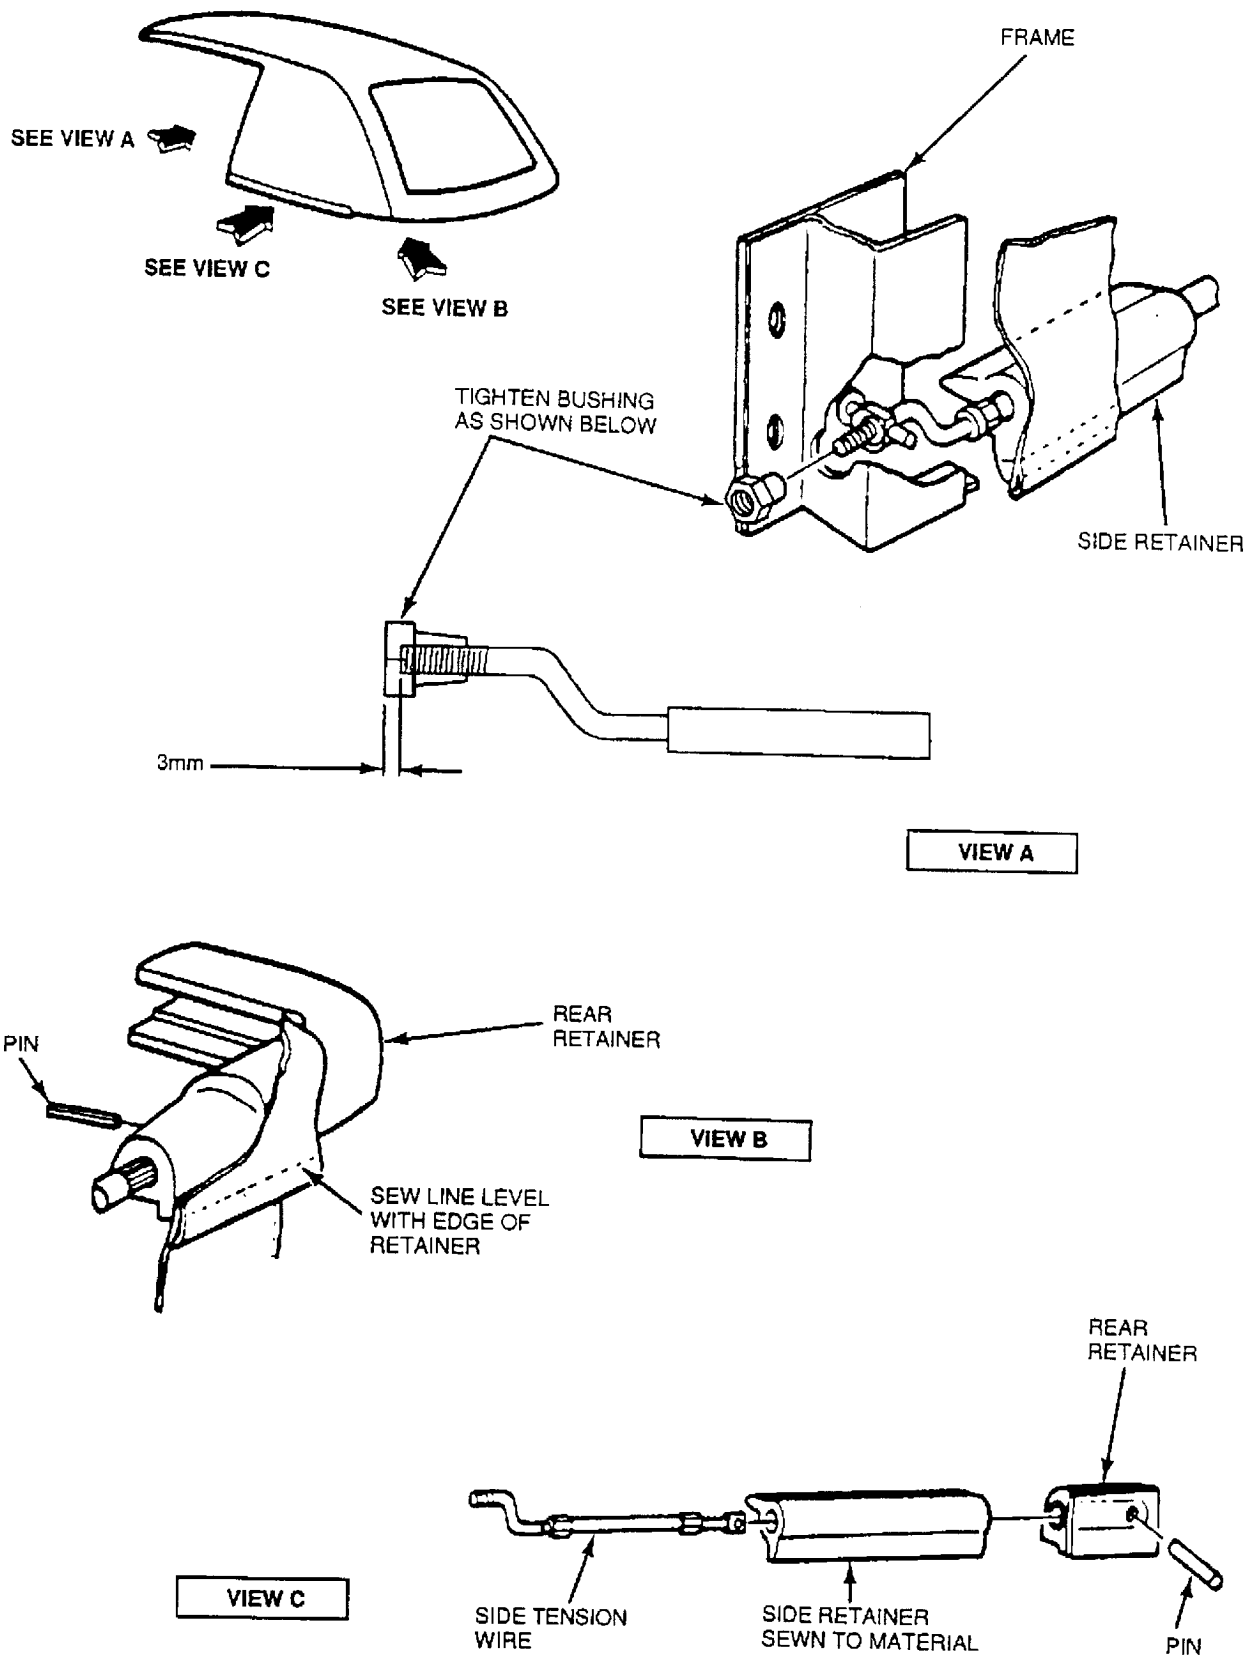

Fig. 4: Side Tension Wire Assembly
2. Tighten the hex head nut until the threaded end of the wire is 3mm short of being flush with the outer edge of the nut (see Figure 4).